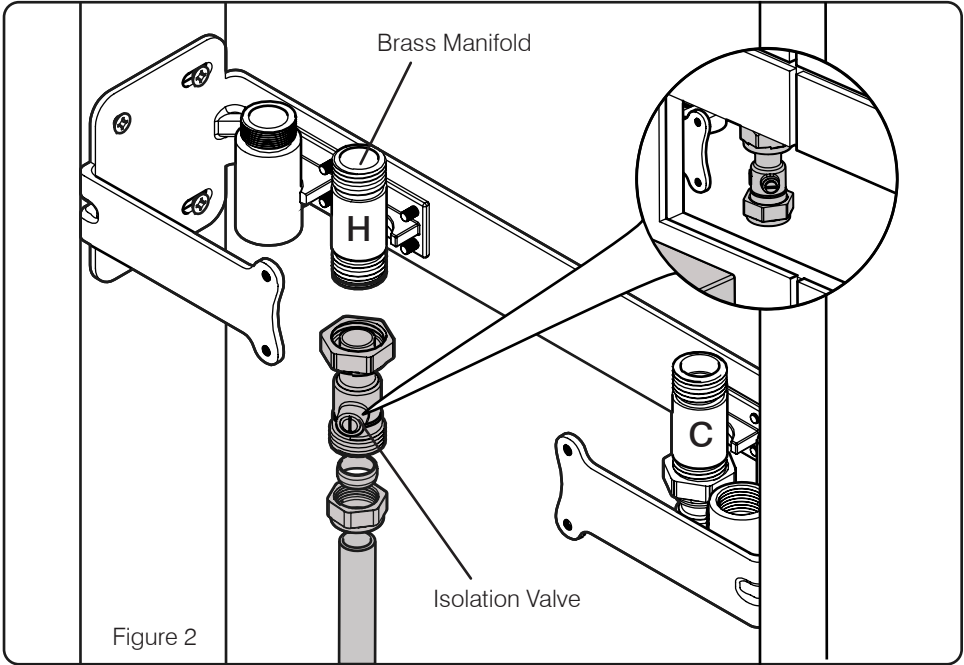

Figure 2
3. Install the supply pipework to the isolation valve and the brass manifolds. The hot water feed should be installed into the left hand manifold and the cold water feed to the right hand manifold. Ensure the isolation valves are mounted so that they will be visible and accessible for later stages (Figure 2).